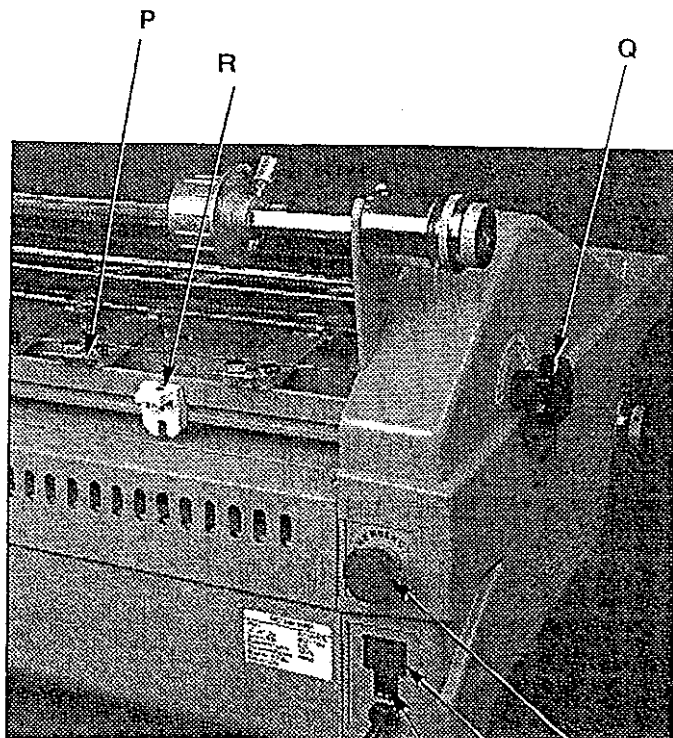

Fig. 1
A. POWER SWITCH: Fig. 1.
K. CIRCUIT BREAKER: Electrical safety device, located on the back of the laminator near the power cord, can be reset by the operator if tripped (Figure 1).
P. SIDE SLITTERS: The slitters can be adjusted to slit the sides of the web as the product being laminated exits the unit. Three slitters enable the operator to run two up and slit both sides of each item, (Figure 1).
Q. SIDE SLITTER ENGAGEMENT KNOB: Located on the left side engages and disengages the side slitters, (Figure 1).
P. SIDE SLITTER: Used to cut off the laminated web, (Figure 1).
R. REAR SLITTER: Used to cut off the laminated web, (Figure 1).
T. EMERGENCY STOP: Used to instantly stop the motor in the event of an emergency. If engaged, twist the knob clockwise to release, (Figure 1).